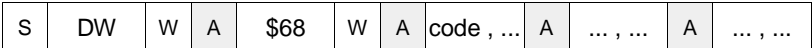

Fig. 3–2: General core access protocol
Fig. 3–1 shows I2C bus protocols for write and read operations of the interface; the read operations require an extra start condition and repetition of the chip address with the device read command (DR). Fields with signals/data originating from the MAS 3587F are marked by a gray background. Note that in some cases the data reading process must be concluded by a NAK condition.